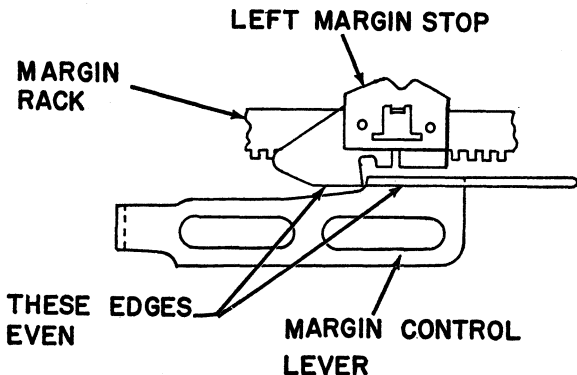

Figure 6. Margin Release Eccentric Adjustment
12. MARGIN RELEASE ECCENTRIC. Adjust the eccentric so that the bottom of the margin control lever is even with the bottom of the left margin stop (Figure 6). Be sure that the right margin stop positively engages the margin control lever after making this adjustment.